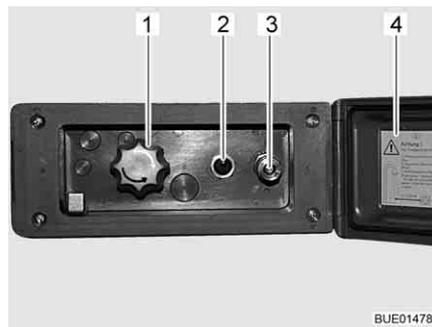

Fig. 95 External shower connection point
- Unlock and open the cover (Fig. 95,4).
- Attach hose of the external shower to the quick closure (Fig. 95,3).
- Switch on the water pump using the switch (Fig. 95,2).
- Adjust the water temperature with the rotary knob (Fig. 95,1) as desired.
- Switch off the water pump using the switch (Fig. 95,2).
- Close the cover (Fig. 95,4) and lock with key.
- Turn knob (Fig. 95,1) to the centre position.